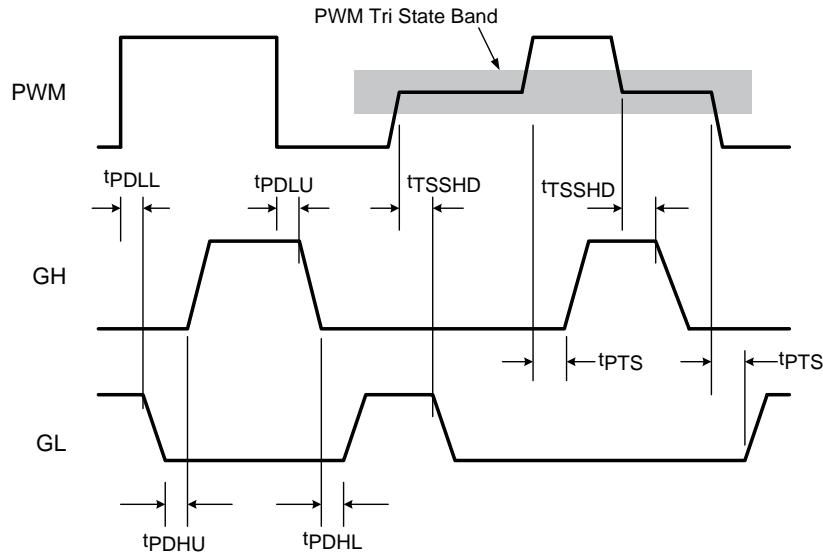

Figure 15. Timing Diagram
AOZ5006QI is offered in two versions which can be interfaced with PWM logic compatible with either 5V (TTL) or 3V (CMOS). Refer to Figure 15 for the timing and propagation delays between the PWM input and the gate drives. The PWM is also a tri state compatible input. When the input is high impedance or unconnected both the gate drives will be off and the gates are held active low. The PWM Threshold Table (Table 1) lists the thresholds for high and low level transitions as well as tri state operation. As shown in Figure 15, there is a hold off delay between the time PWM signal enters the tri state window and the corresponding gate drive is pulled low.
**Note:** See Figure 15 for propagation delays and tri state window.